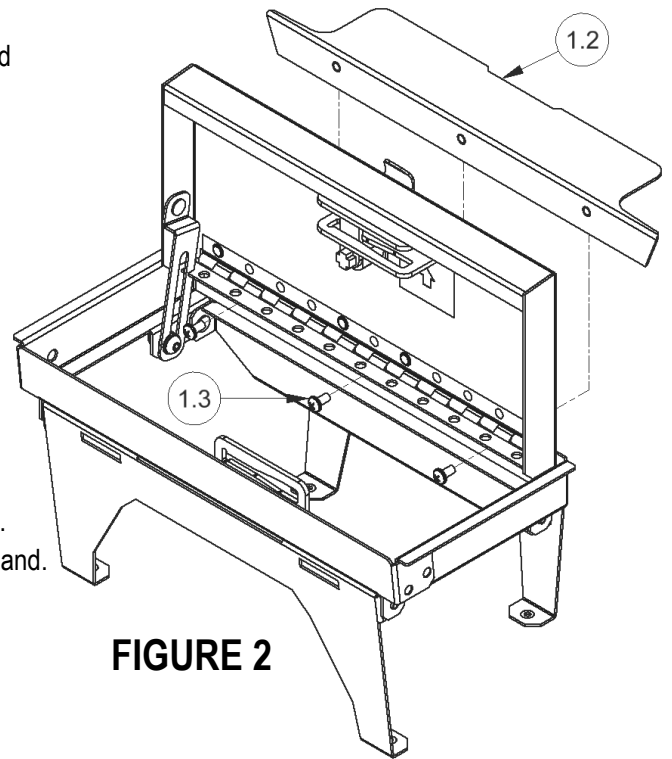

FIGURE 2
- Lower the #1.2 Fill Plate into place at the rear of the Console Insert and secure in place using (3) #1.3 Screws. Start the screws by hand to insure they do not become cross-threaded. **See Figure 2.**